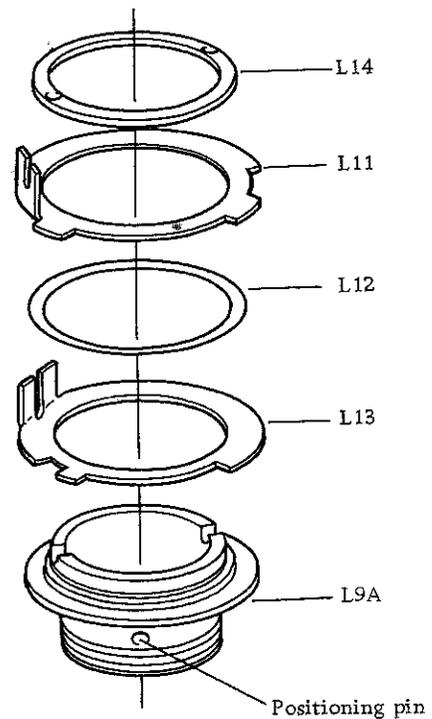

Fig. 3
B. Remove the tightening ring (L14) with the Tool (L10-TA1), and remove the shutter set ring (L11), ring washer (L12), and release ring (L13). Fig. 3
A. Install the set ring (L11), washer (L12), and release ring (L13) on the shutter installation seat (L9A), and tighten the tightening ring (L14) with the Tool (L10-TA1). Fig. 3
B. When the shutter installation seat (L9A) does not operate effectively, check and correct each ring for warping, or apply Moliccoat grease and smooth the operation. Fig. 3